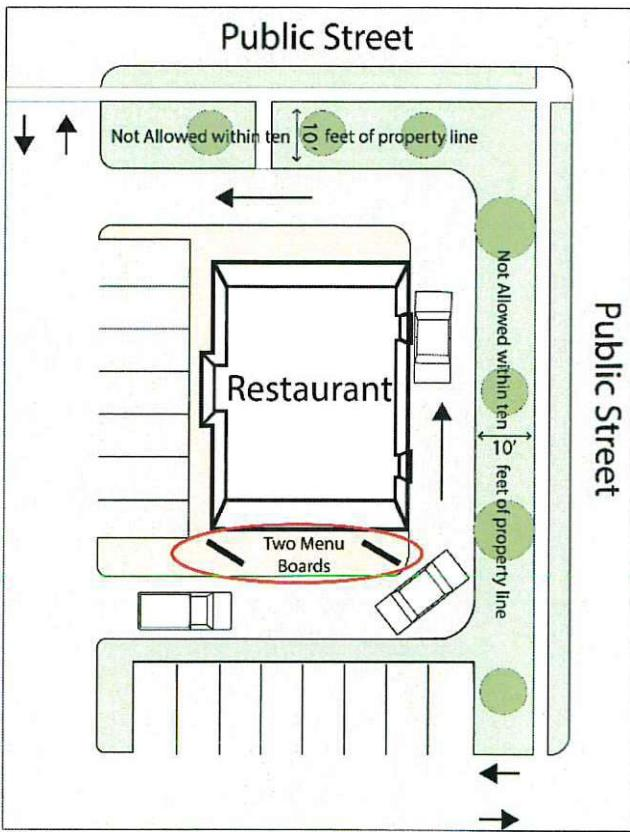

Figure 11
1. Two (2) freestanding or wall mounted menu boards are allowed per business and may be located not less than ten feet (10') from the street property line (*See Figure 11*);
2. Maximum area may not exceed thirty-two (32) square feet per sign;
3. Maximum sign height may not exceed eight (8) feet for freestanding menu signs;